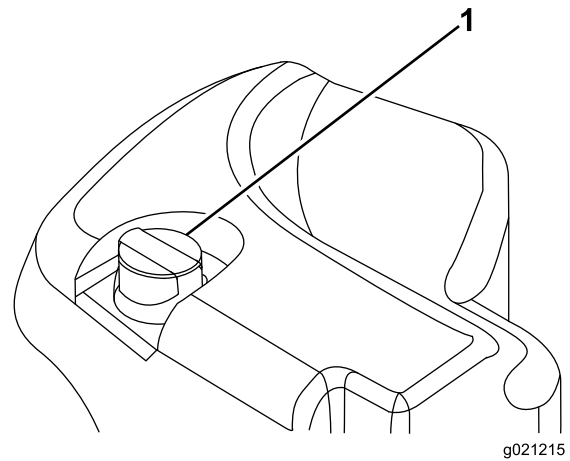

Figure 33
2. Clean the area around the filler neck and cap of the hydraulic tank (Figure 33).